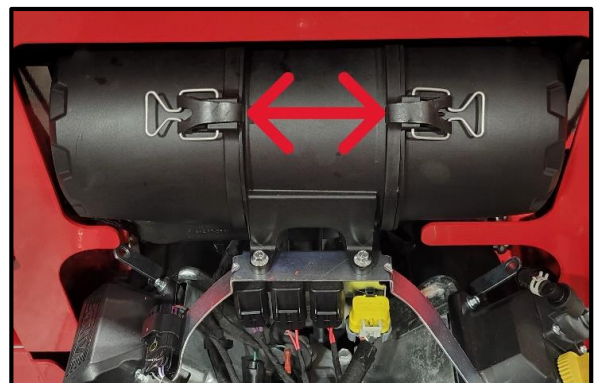

Figure 1 Air Cleaner Clamps
3. Undo the fasteners on the front and rear of the air cleaner [Figure 1].
11. Clamp the exposed fasteners [Figure 1].